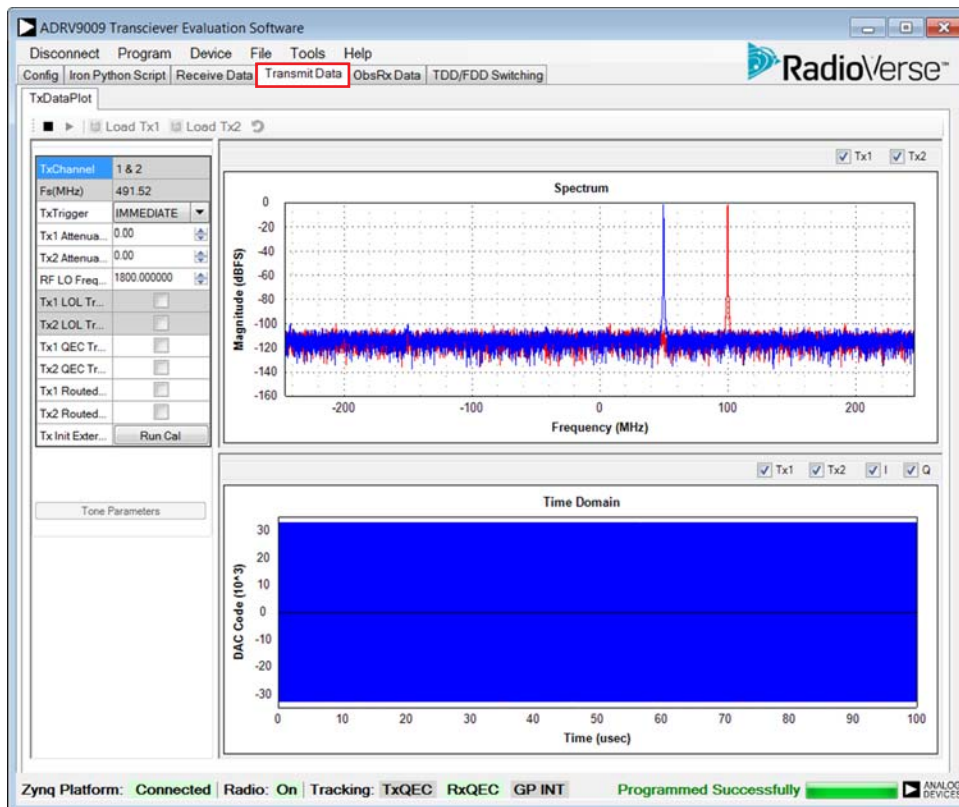

Figure 36. **Transmit Data** Tab
Selecting the **Transmit Data** tab opens a page as shown in Figure 36. The upper plot displays the FFT of the digital input data, and the lower plot shows the time domain waveform. When the Transmitter 2 outputs are enabled, the user can select the Transmitter 2 data to be displayed in the spectrum plot. In the time domain plot, the user can select Transmitter 2, I, or Q data to be displayed.
6. Next, click on the **Transmit Data** tab shown in Figure 36. In this tab,